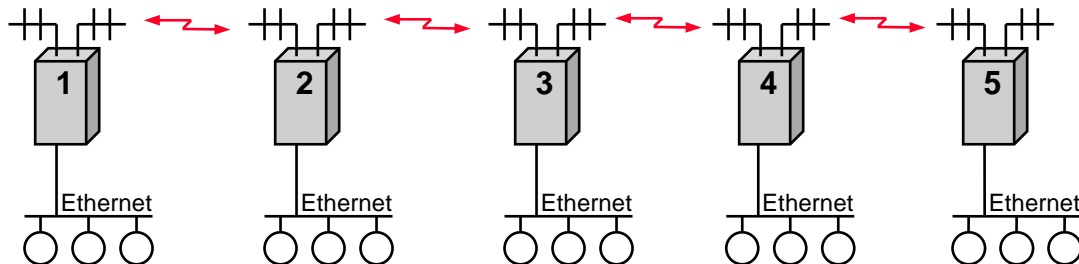

Figure G1 Linear Network Topology
- Figure G1** Linear Network Topology